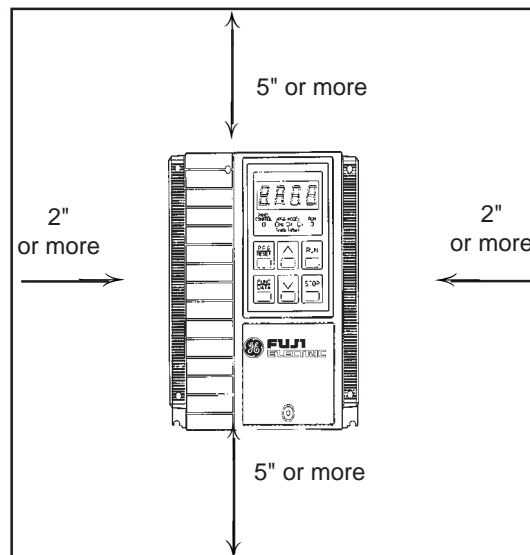

Figure 3-1. DRIVE MOUNTING CLEARANCE
- Install at a sufficient distance from other equipment, walls, or wiring ducts as shown in Figure 3-1 (these clearances are required to allow the heat generated by the Drive to escape).
NOTE: When installing *two or more Drives* in close proximity, allow sufficient space as shown in Figure 3-1 and install them in a horizontal row. If they must be installed in a vertical column, at least 19.7 inches (50cm) internal space must be provided between each one or a ventilation baffle should be provided to prevent the ambient temperature from rising.